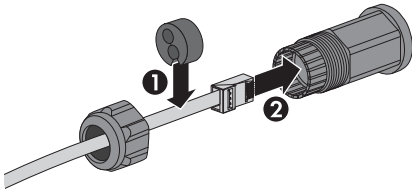

Figure 2.20 Run cables through cable glands
2. Run the cables through the base of the inverter via cable glands. See figure 2.20.